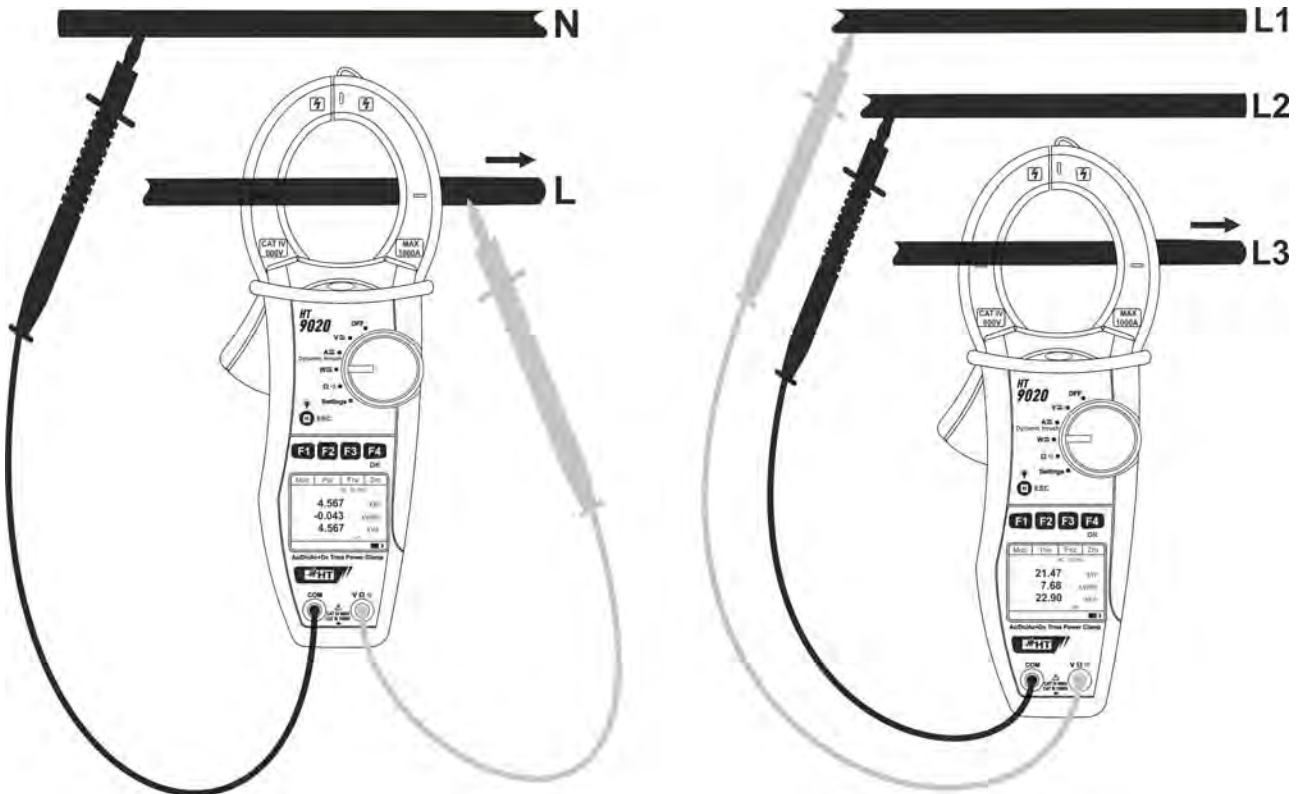

Fig. 12: AC/AC+DC power measure on Single phase and balanced Three phase systems
5. Connect red cable to input lead **VΩ⁽ⁱ⁾** and black cable to input lead **COM** then perform the connection as indicated in Fig. 12 depending on the type of system under test. Put the phase cable into the clamp jaws respecting the direction of current indicated by the arrow (see Fig. 12). Connect the cable to the middle of the clamp jaws, in order to get accurate measurements. Use the marks as a reference (see Fig. 2)